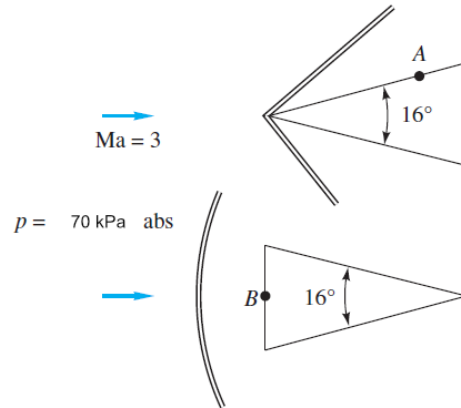

Fig. 9.14
9.14 Air flows at $Ma = 3$ and $p = 70$ kPa absolute toward a wedge of 16° angle at zero incidence in Fig. 9.14. If the pointed edge is forward, what will be the pressure at point A? If the blunt edge is forward, what will be the pressure at point B?